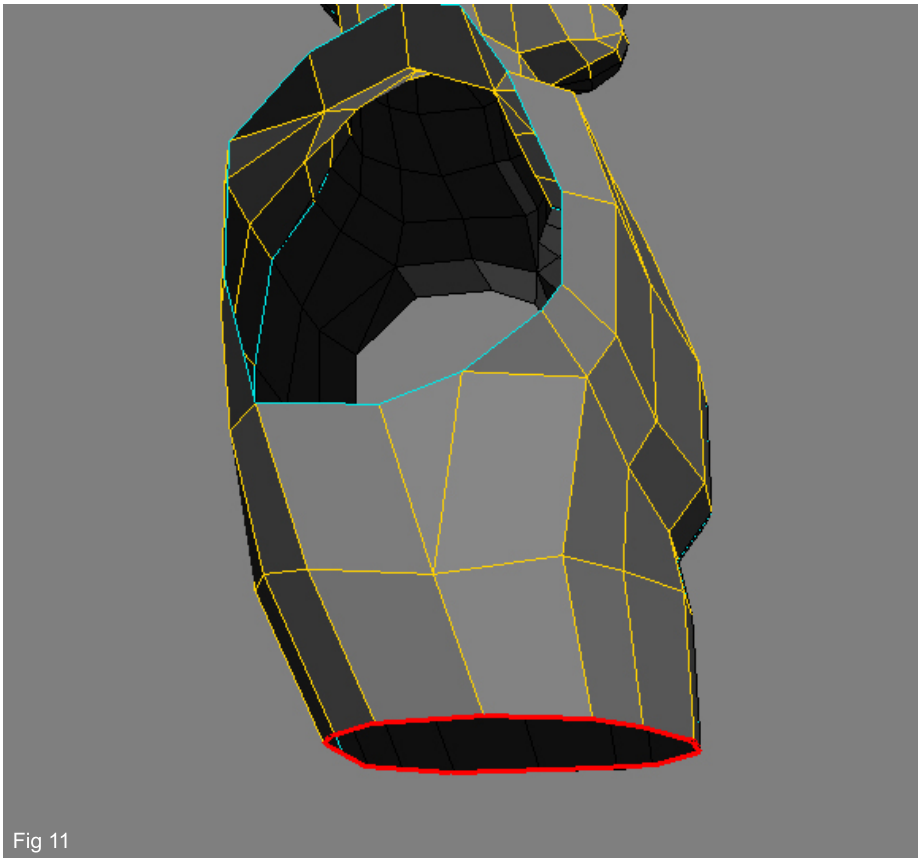

Fig 11
11. Now we have a complete loop of edges all around the lower part of the mesh. Select it and extrude it to continue building the torso (Fig11).